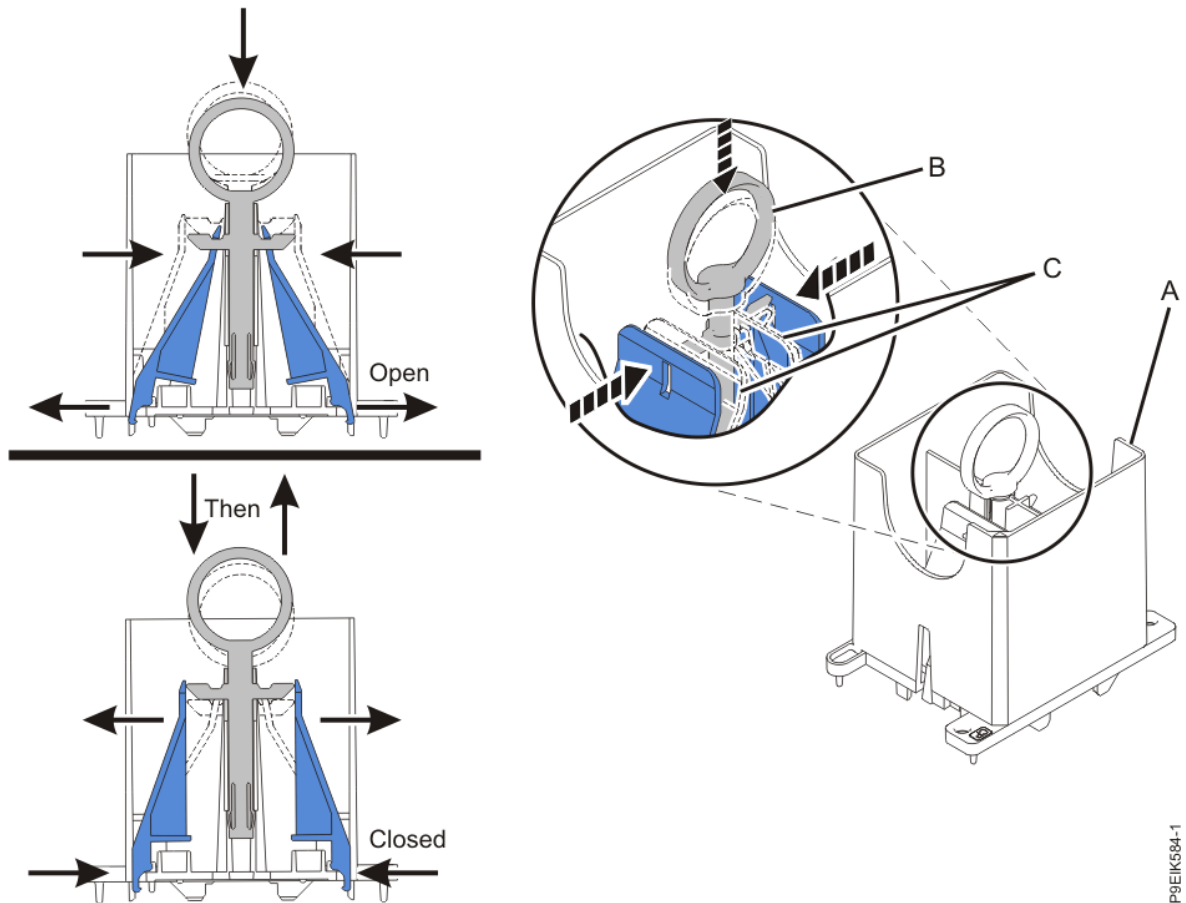

Figure 58. Ensuring the removal tool is in the open position
- b) Ensure that the removal tool **(A)** is in the open position as shown in Figure 58 on page 61. The middle pin **(B)** must be pushed down and blue tabs **(C)** must be turned inward.